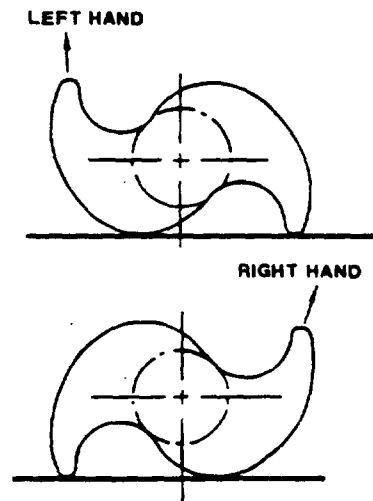

FIGURE 4
8. Install new camshaft into barrel assembly. See Figure 4.